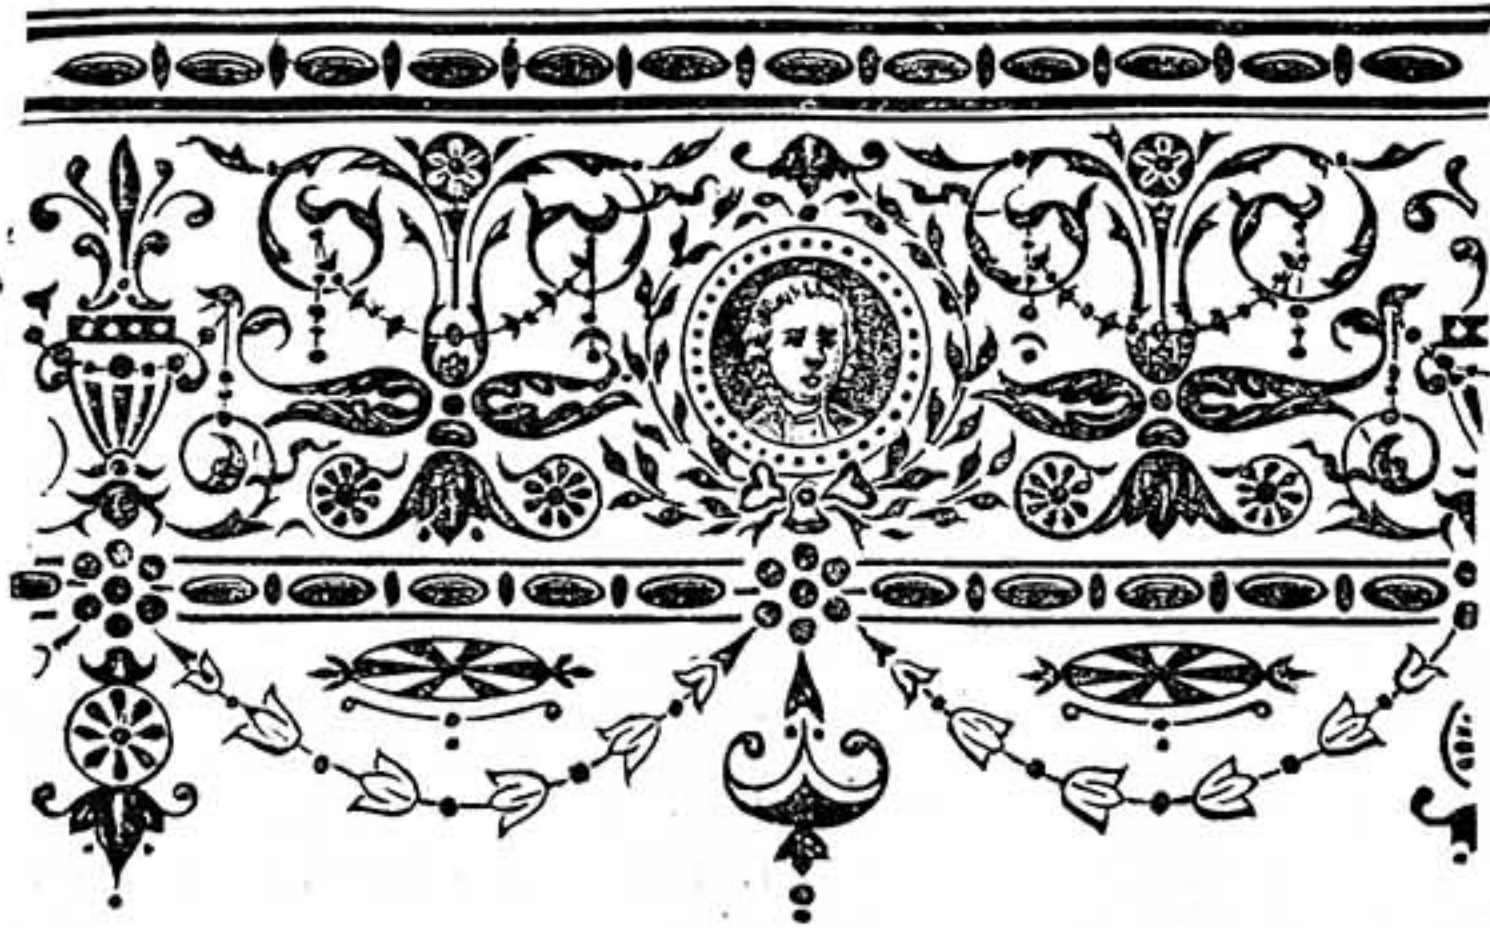
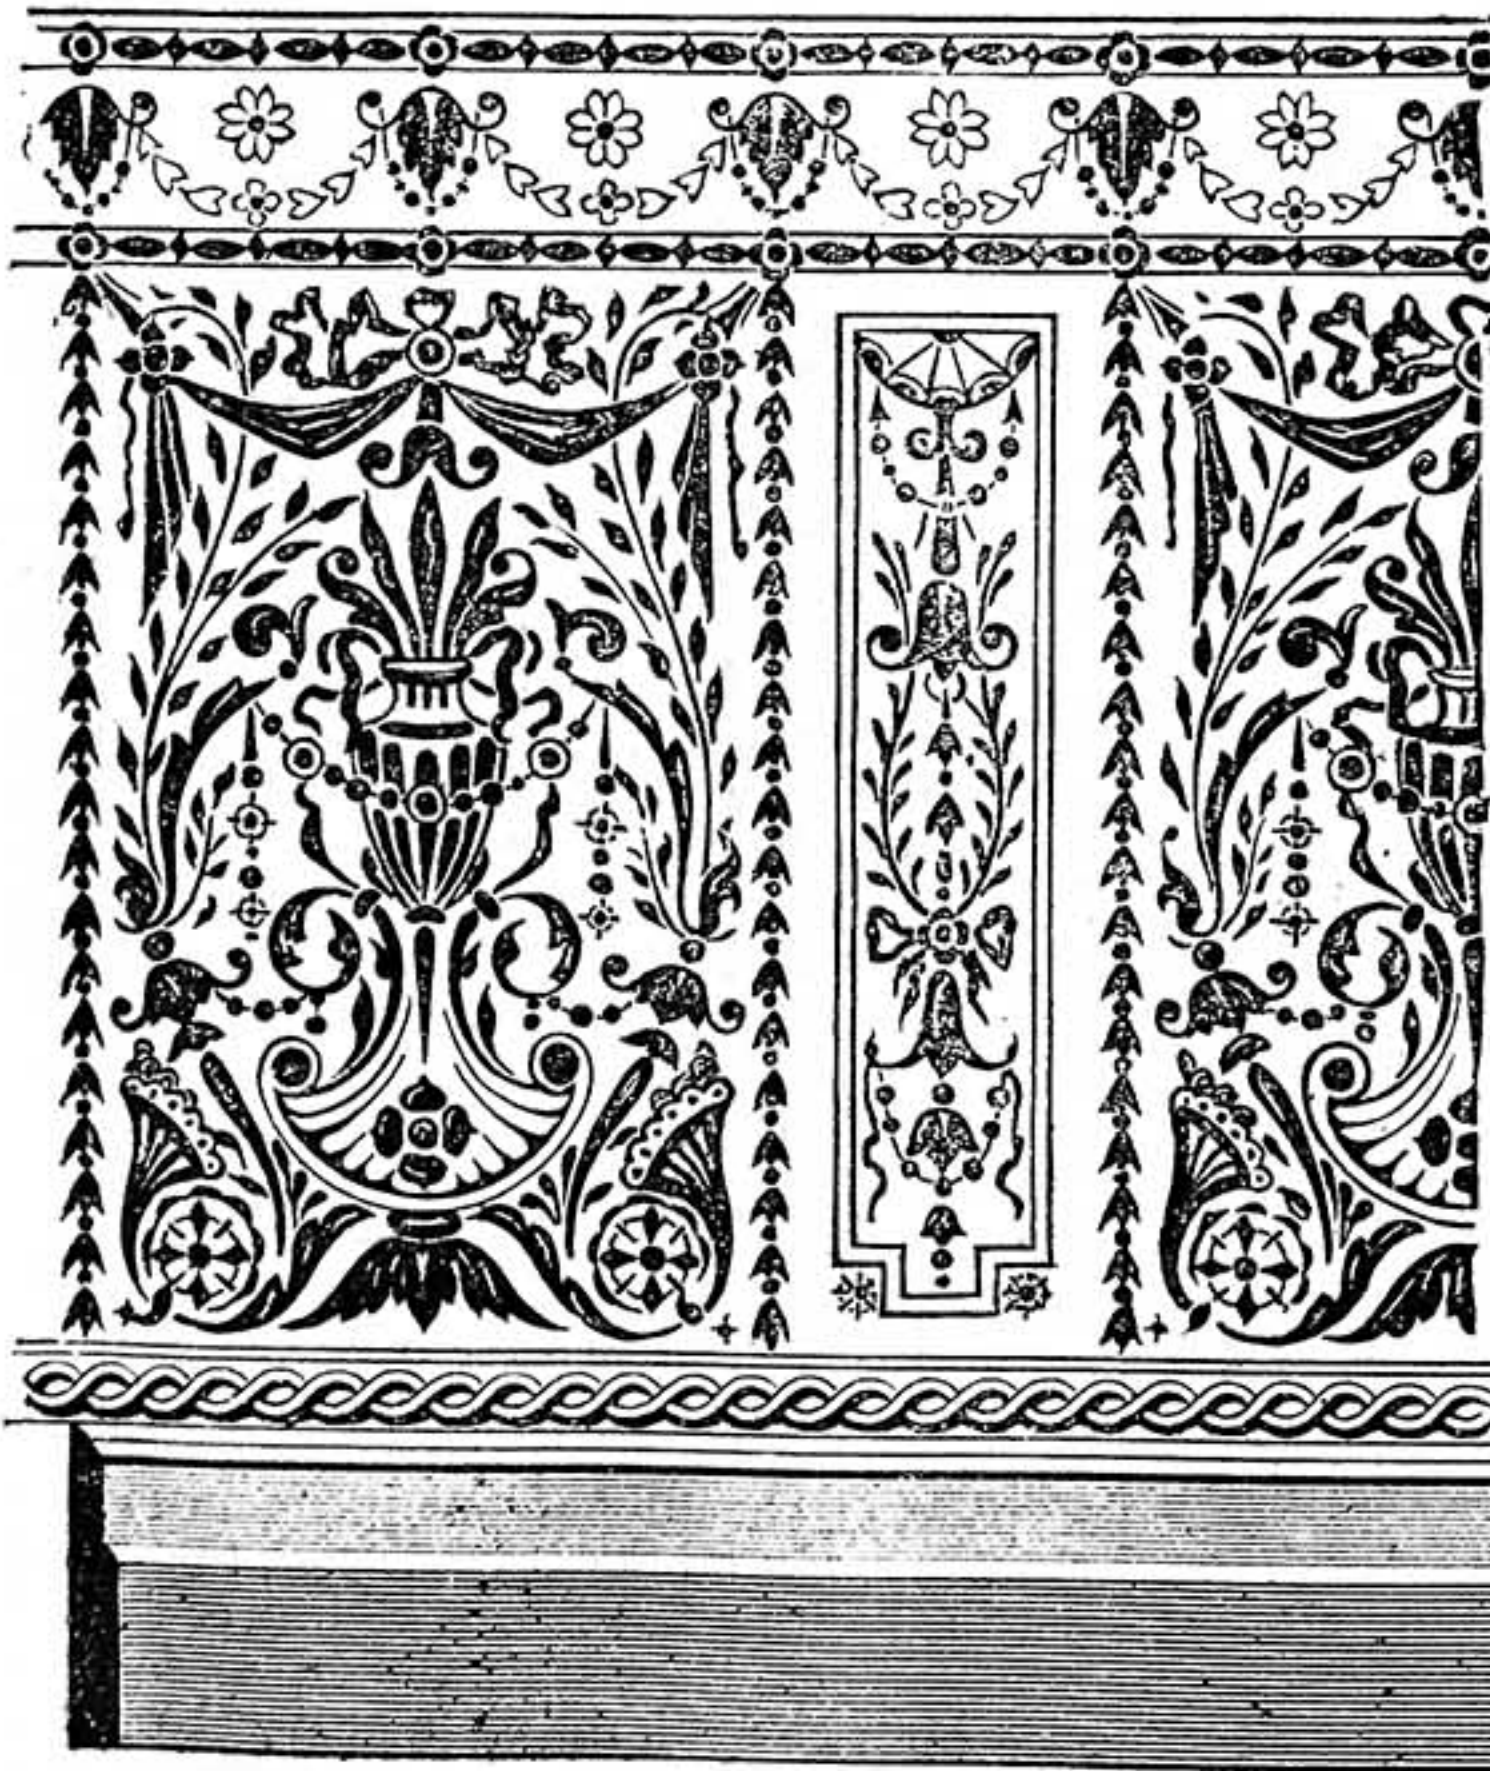

Fig. 2.
Fig. 1.
Stencil Designs for the Decoration of a Drawing-Room. Fig. 1.—Dado above Skirting in Borders and Panels. Fig. 2.—Frieze below Cornice. Figs. 3 and 4.—Designs for Borders. Fig. 5.—Treatment of Upper (A) and Lower (B) Panels of Door and Ornamental Work above Door.
Turning now to the practical aspect of this decorative treatment, we will consider Fig. 1 of the illustration. Judging by the paper-stainers' new designs for the present year, we may safely state that dados for the decoration of drawing-rooms are rapidly "going out" of demand, and that deep frieze decorations are in stronger call. For the drawing-room—"with-drawing" room—pure and simple, where the apartment is but seldom used, and then only for special social purposes, a dado is certainly a superfluous feature. The notion that dados were merely the outcome of a wall chair rail, and not purely a decorative feature, is still as prevalent as it is erroneous; and the intimation that their source can be explored in the ruins of ancient Pompeii comes equally as a matter of surprise to many. Judging again, however, from the common-sense basis, we decide upon these grounds: whether the amount of elaborate work would be sufficiently displayed according to the arrangement of our furniture; whether, if we simply carry the plain treatment down to the skirting, we shall probably have any objectionable dents and finger-marks to catch and worry the eye; whether the height of wall is adapted for a dado; and so forth. This vexed question being perhaps settled in the general affirmative, I give a few instructions for its execution. With regard to these designs, it may be thought that a worker who can draw them large enough to use would probably be able to produce his own design, and *vice versa*. Such does not, by any means, always apply. The main feature of "Adams" work is a repetition of simple forms in graceful lines; therefore, given this feature, the exact proportion of a reproduction of my illustrations is not a necessity. All wall stencil-work, if it be above the level of ornamental doggerel, must be drawn with direct regard to the size and disposition of the room, hence it follows that, with the exception of ceiling ornaments and simple borders, sets of ready-cut stencils can seldom be applied to an apartment without much re-arrangement and often mutilation of the designs. The